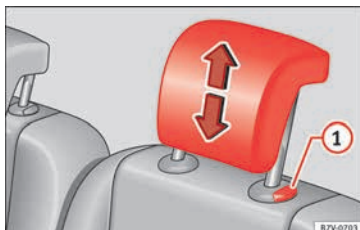

Fig. 152 Adjust the head restraints in the second or third row of seats
- Raise the head restraint in the direction of the arrow or lower it » **Fig. 151** or » **Fig. 152** **1** with the button pressed » in **Removing and installing the head restraints** on page 146.